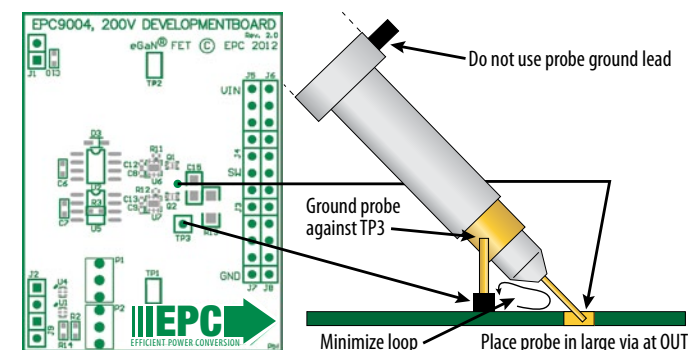

Figure 3: Proper Measurement of Switch Node –  $V_{OUT}$
**NOTE.** When measuring the high frequency content switch node (OUT), care must be taken to avoid long ground leads. Measure the switch node (OUT) by placing the oscilloscope probe tip through the large via on the switch node (designed for this purpose) and grounding the probe directly across the GND terminals provided. See Figure 3 for proper scope probe technique.